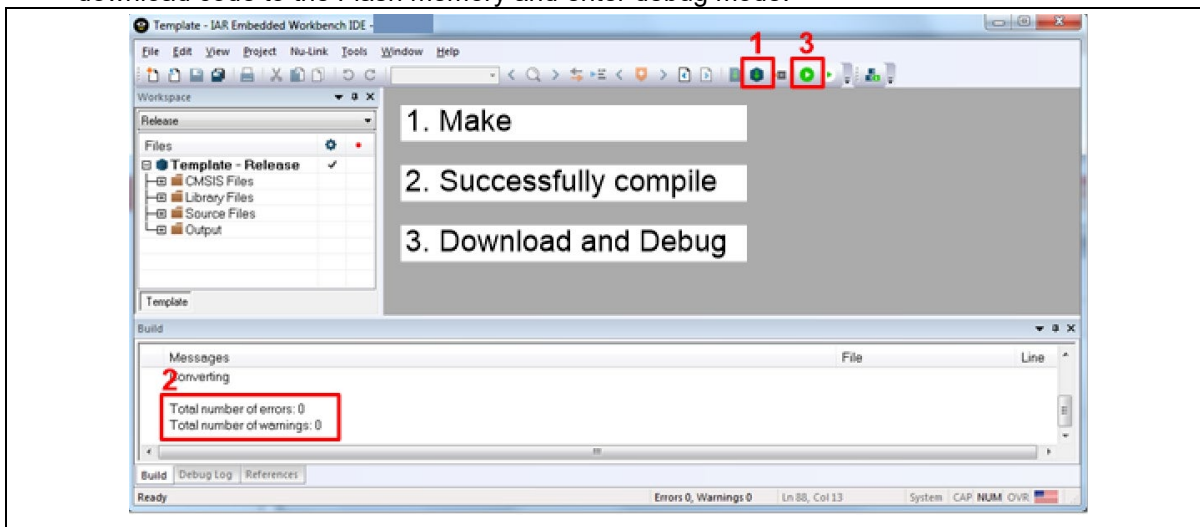

Figure 4-14 Compile and Download the Project
3. Make a target file as presented in Figure 4-14. After successfully compiling the project, download code to the Flash memory and enter debug mode.